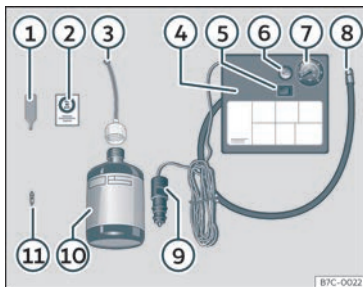

Fig. 38 Standard representation: anti-puncture kit contents.
The anti-puncture kit is located underneath the floor covering in the luggage compartment. It includes the following components » Fig. 38:
- Unscrew the tyre valve cap and insert. Use the » Fig. 38 ① tool to remove the insert. Place it on a clean surface.
- Shake the tyre sealant bottle vigorously » Fig. 38 ⑩.
- Screw the inflator tube » Fig. 38 ③ into the sealant bottle. The bottle's seal will break automatically.
- Remove the lid from the filling tube » Fig. 38 ③ and screw the open end of the tube into the tyre valve.
- Place the insert back into the tyre valve using the tool » Fig. 38 ①.
- Screw the compressor tyre inflator tube » Fig. 38 ⑧ into the tyre valve.
- Check that the air bleed screw is closed » Fig. 38 ⑥.
- Insert the connector » Fig. 38 ⑨ into the vehicle's 12-volt socket » page 149.
- Turn the air compressor on with the ON/OFF switch » Fig. 38 ⑤.
- Attach the sticker »» Fig. 38 ② to the instrument cluster, within the driver's visual field.
Screw the inflator tube »» Fig. 38 ⑤ again and check the pressure on the gauge ⑥.